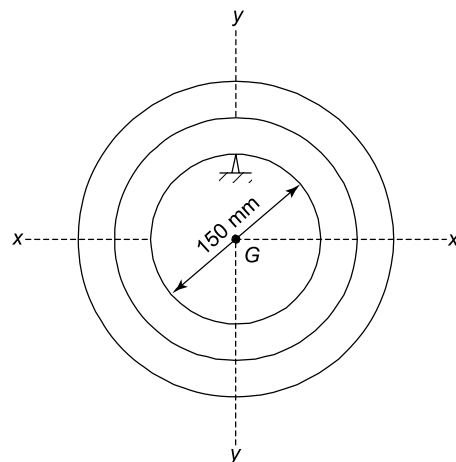

Figure 19.8
Problem 4. It is required to determine the mass moment of inertia about G of a metal ring, which has a complex cross-sectional area. To achieve this, the metal ring is oscillated about a knife edge, as shown in Figure 19.8, where the frequency of oscillation was found to be 1.26 Hz. If the mass of the ring is 10.5 kg, determine the mass moment of inertia about the centre of gravity, I_G . Take $g = 9.81 \text{ m/s}^2$.
By inspection of Figure 19.8, $h = 75 \text{ mm} = 0.075 \text{ m}$.
- What will be the value of the mass moment of inertia through the centre of gravity, I_G , for the compound pendulum of worked problem 4 on page 236, if the inner diameter of the disc of Figure 19.8 were 100 mm?